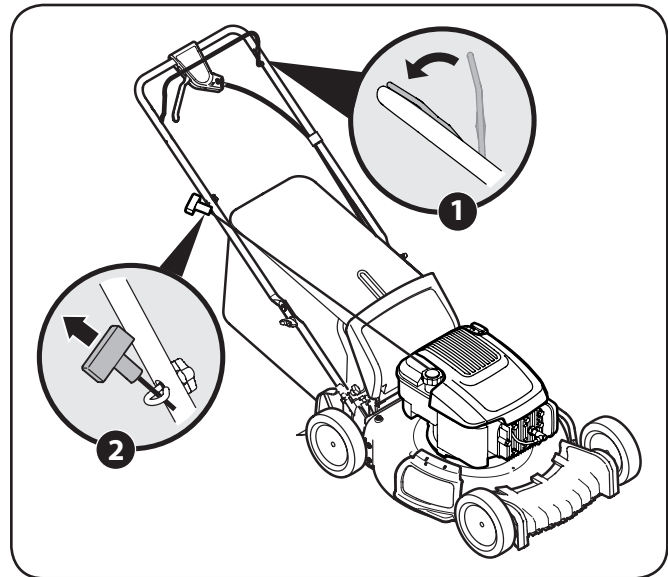

Figure 5-1
2. Holding these two handles together firmly, grasp recoil starter handle and pull rope out with a rapid, continuous, full arm stroke. See Figure 5-1. Keeping a firm grip on the starter handle, let the rope rewind slowly. Repeat until engine cranks. Let the rope rewind each time slowly.